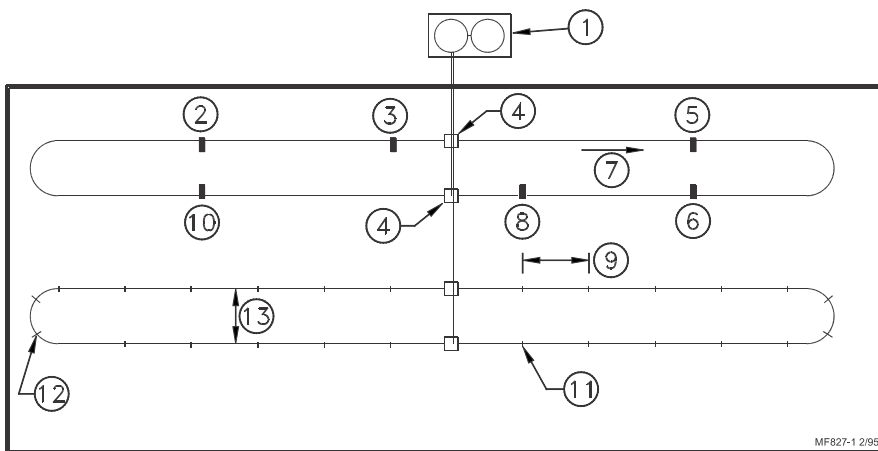

Figure 1. System Layout Diagram for systems using (2) Hoppers per loop. (Top View).
Figure 1, shows a house with (2) ULTRAFLO® Breeder Feeder Loops. The purpose of the first loop is to show the recommended placement of the power units, hoppers, and weigh bin.
FOR HOUSES UP TO 350’ (106 M), two power units are recommended. These power units should be evenly spaced opposite each other. For a 350’ (106 m) house the power units should be placed in positions “3” and “8” **See Figure 1 (on page 8)**. Notice that the power units are located one trough section from the hoppers.
FOR HOUSES FROM 351’ TO 450’ (106 TO 137 M), three power units are recommended. To determine the proper placement of the three power units, add the total length of the system, including 5’ (1.5 m) for each 90 degree elbow, and divide by 3. This will give an approximate number of feet between power units, round up or down to the nearest suspension drop line. These power units should be staggered (two on one side of the loop, one on the other side). The power units should be placed in positions “3”, “10”, and “6” (**See Figure 1**). The power unit in position “3” should be located one trough section away from the hopper.
For houses from 451’ to 600’ (137 to 182 m), four power units are recommended. These power units should also be spaced evenly around the system. To determine the proper placement of the power units, add the total length of the system, including 5’ (1.5 m) for each 90 degree elbow, and divide by 4. This will give an approximate distance between power units, round up or down to the nearest suspension drop line. The power units should be evenly spaced directly across from each other in the system. The power units should be placed in positions “2”, “10”, “5”, and “6” (**See Figure 1**).